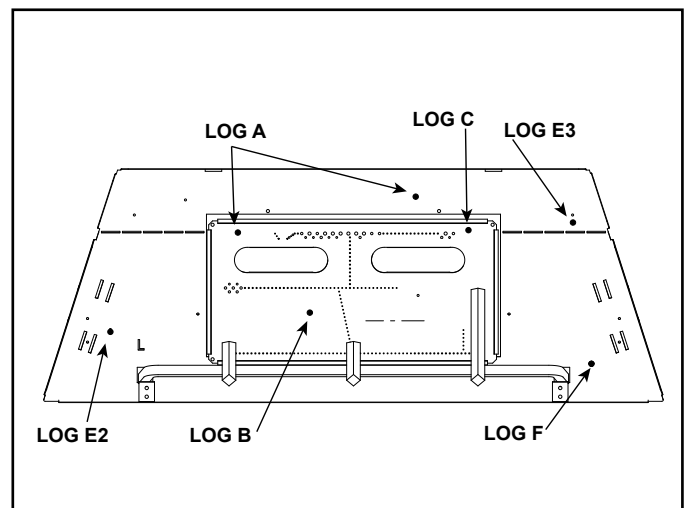
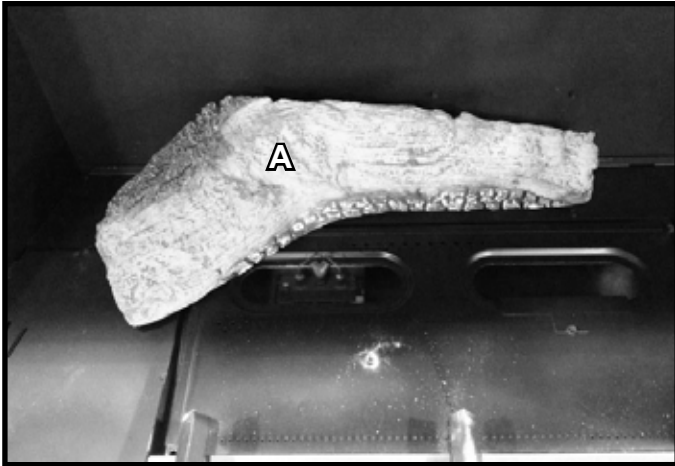
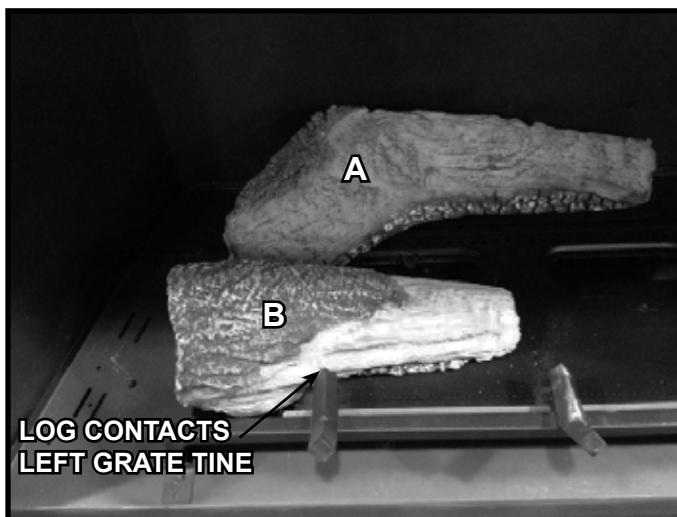
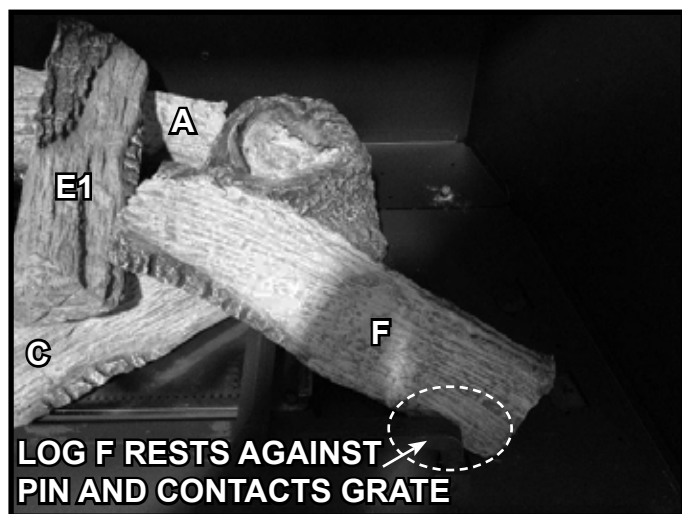

Figure 4. LOGSDBDV42 Log Pin Locations
Figure 5. Log A Installed
Figure 6. Log B Installed
Figure 10. Log F Installed
1. **(LOG A):** Locate the two pin holes on the bottom of Log A. Hold the log so that the flat spot is facing the rear of the appliance and the pin holes are facing the base pan. Place Log A over the two pins referenced for Log A in Figure 4. Refer to Figure 5.
2. **(LOG B):** Locate the pin hole on the bottom of Log B. Place pin on Log B over the pin referenced for Log B in Figure 4. Hold the log over the pin and rotate the left side of the log until it contacts the left grate tine. See Figure 6.
6. **(LOG F):** Place Log F into appliance as shown in Figure 10. The burned out end of the log should rest on Log C and contact Log E1. The unburned end of Log F should rest against log pin F, as shown in Figure 4, and contact the back of the lower grate tine as noted in Figure 10.